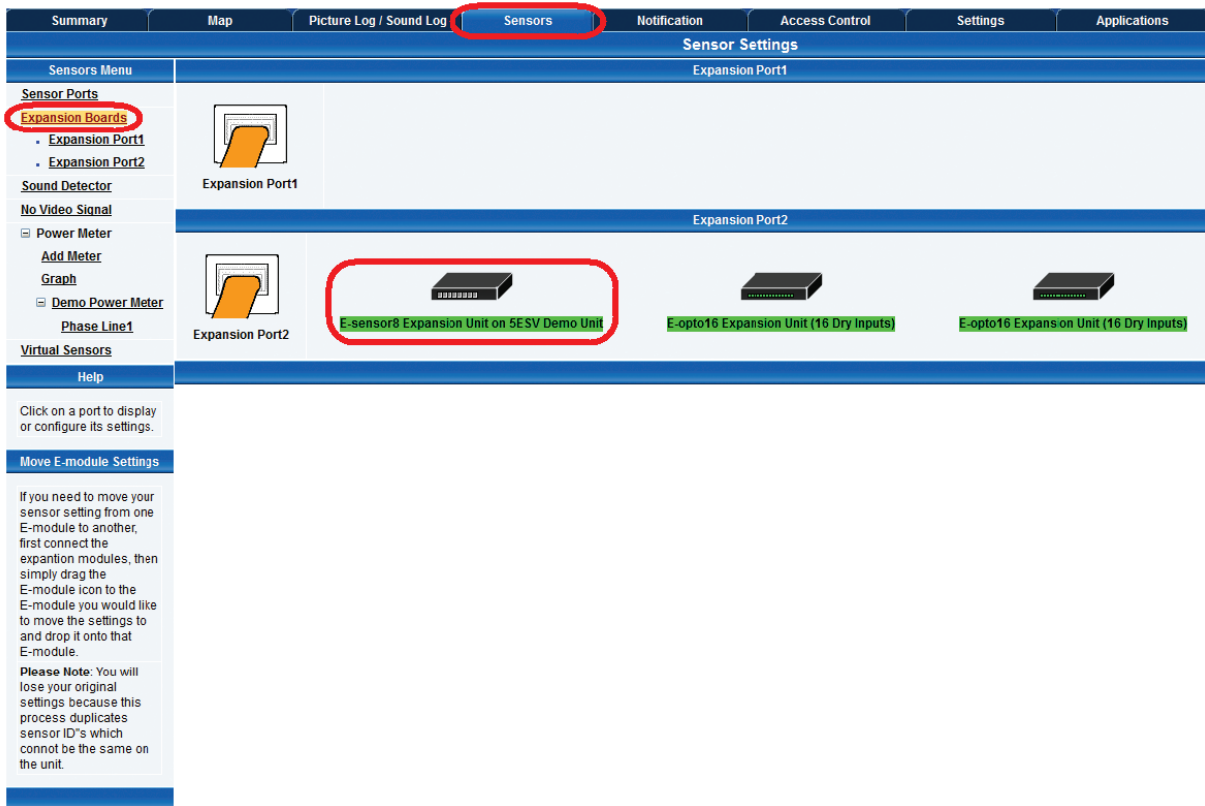

Figure 3-62. Sensors tab, extended port option.
2. From the summary page, navigate to the “Sensors” tab. Then click “Expansion ports” as outlined in Figure 3-62.